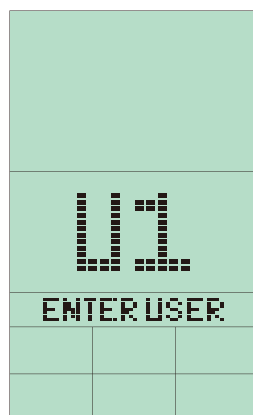

FIGURE 3
(1) Turn the Toggle Wheel to select User 1~4 and press ENTER for confirmation. (FIGURE 3~4).